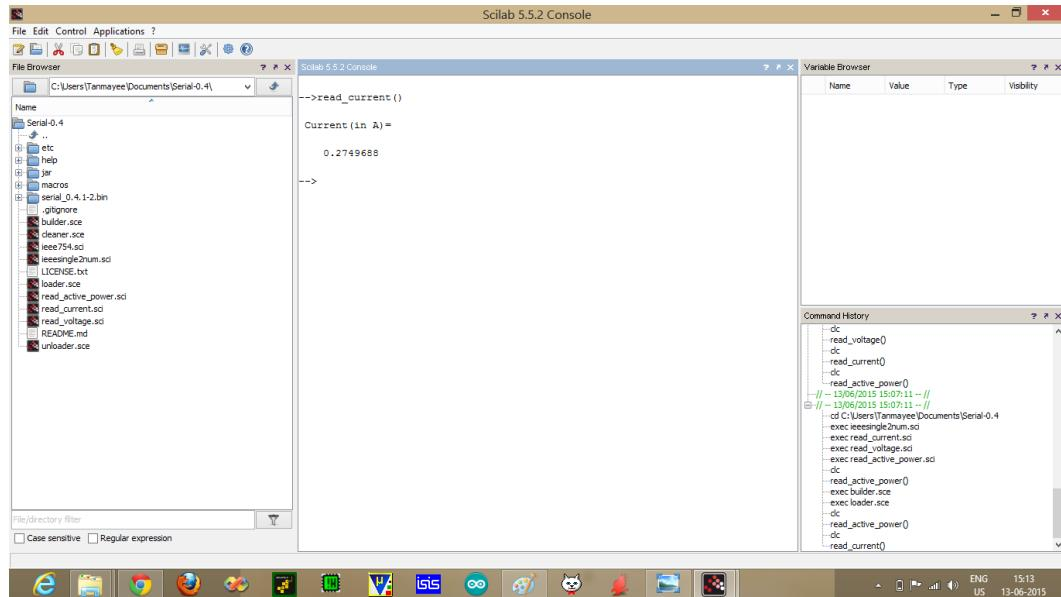
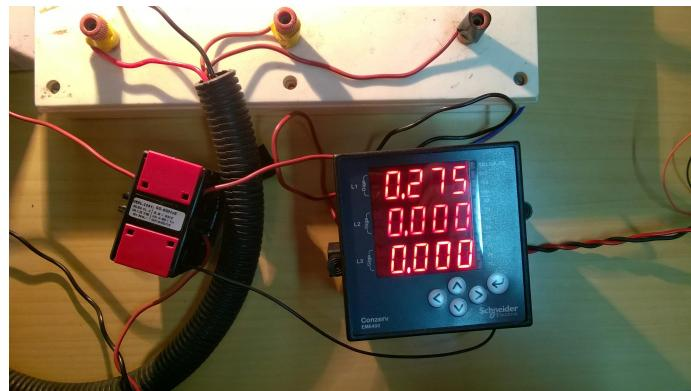

Figure 11.8: Single Phase Current Output on Scilab Console
Figure 11.9: Single Phase Current Output on Energy Meter
1. Single phase current output: Fig. 11.8 and Fig. 11.9 show Scilab code output of current in Amperes and corresponding snapshot of Energy Meter display with a single load rated 60W-230V.